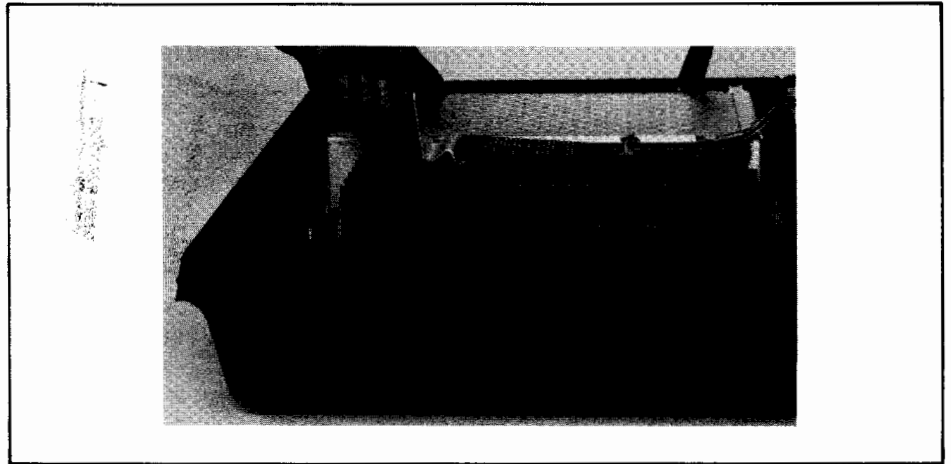

Figure 2-3. TOP Plane Assembly Removal
1. Insert Connector Extractor 1600-0676 under the top plane connector (figure 2-3).